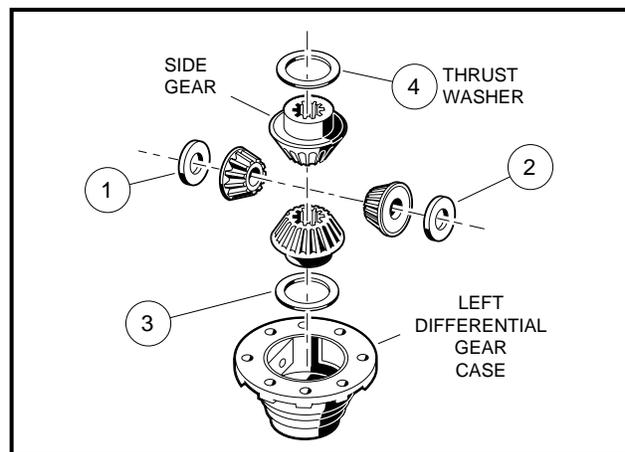

Figure 16-20 Left Differential
- 9.7. Remove the differential gears and thrust plates (34 and 37) (**Figure 16-3, Page 16-3**) or (30 and 27) (**Figure 16-4, Page 16-4**). See also **Figure 16-20, Page 16-10**.